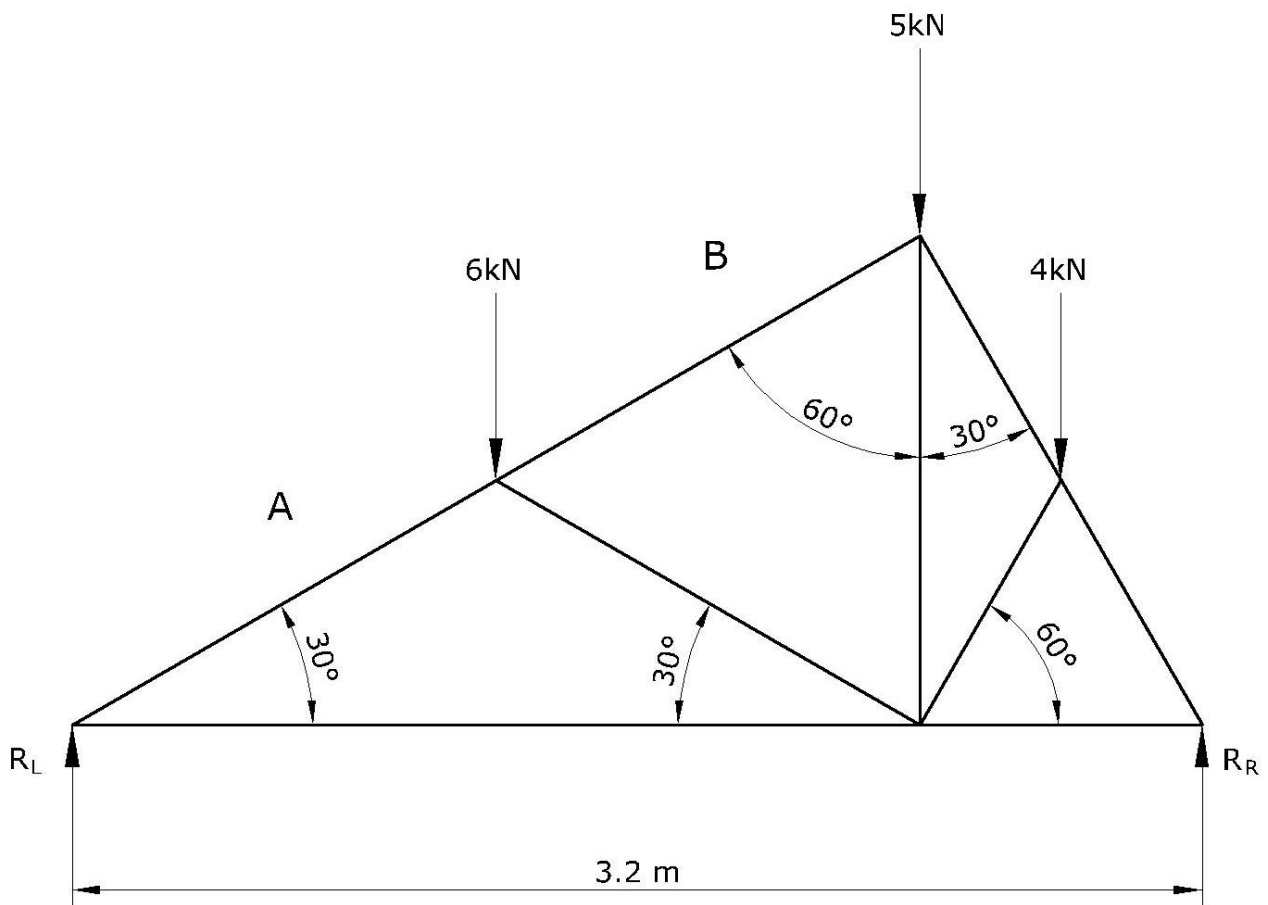

Figure 6
6. Figure 6 represents the framework of a roof. The framework is supported at both ends, has a span of 3.2 m and is loaded as shown.
- the space diagram and complete the Bow's notation; (3)
- the polar diagram, the link polygon and the force diagram; (6)
- Determine and state the magnitude of the left and right reactions ( $R_L$  and  $R_R$ ). (4)
- Find, by graphical means, the forces in each member and distinguish between struts and ties. (7)